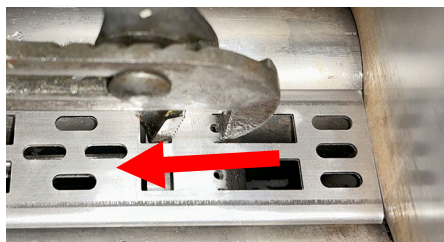

Figure 41
80. Using small channel lock pliers, bend the two (2) tabs closest to the front wall, towards the center of the bracket, to lock the guard over the probe bracket (see Figure 41).